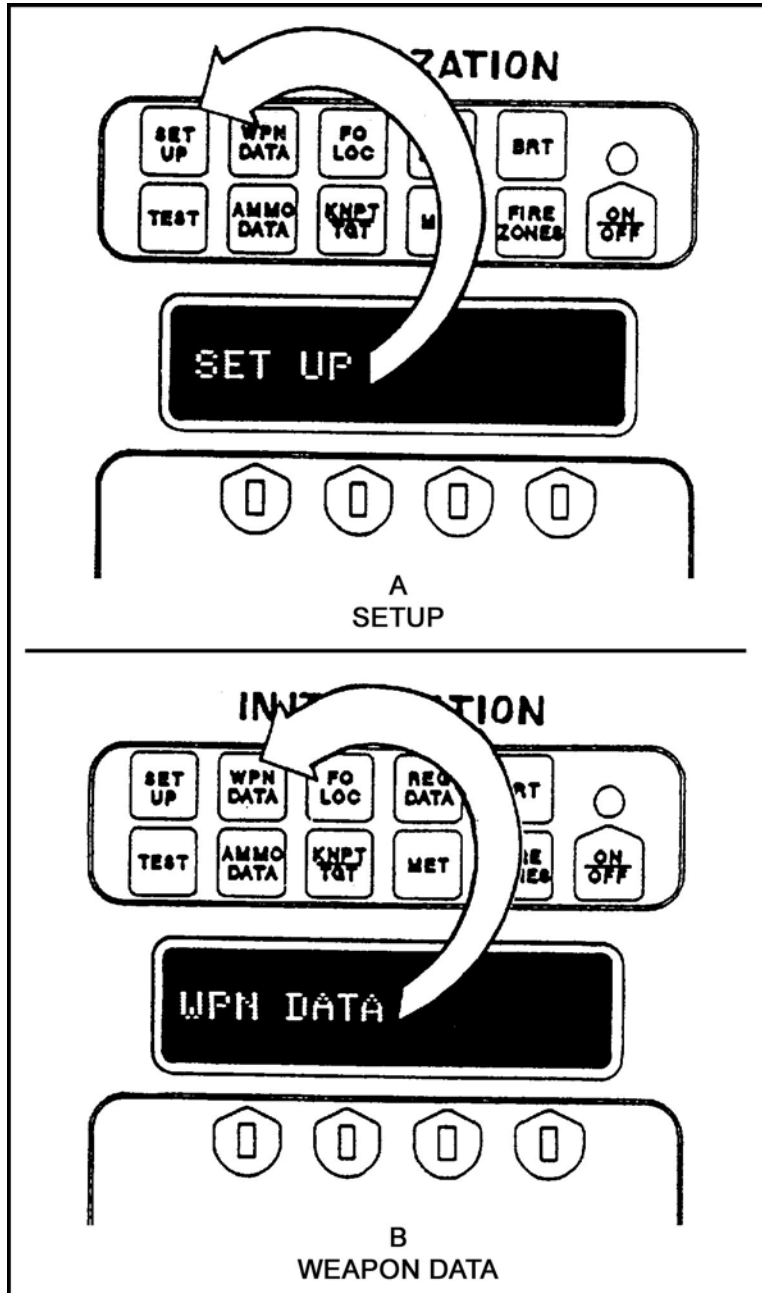

Figure 8. Setup and weapon data displays.
- c. During the switch test, the MBC shows which switch to press next. After you press the switch shown on the display, the MBC shows the next switch to press (A and B, Figure 8).